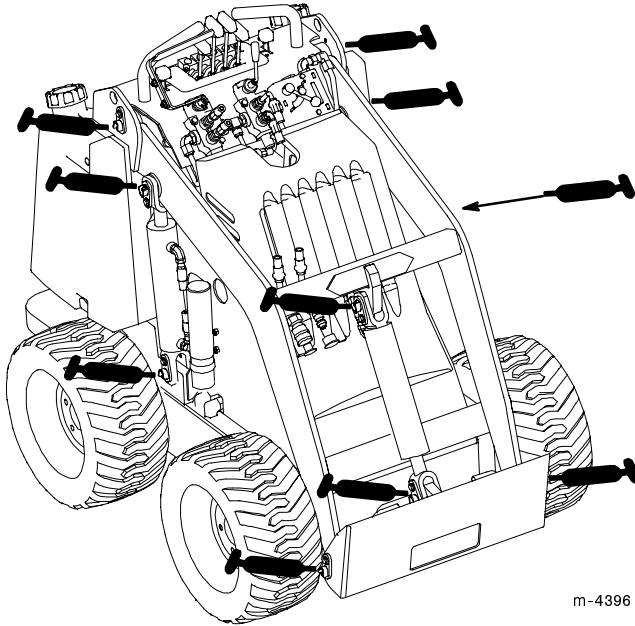

Figure 18
3. Connect a grease gun to each fitting (Fig 18 and 19).